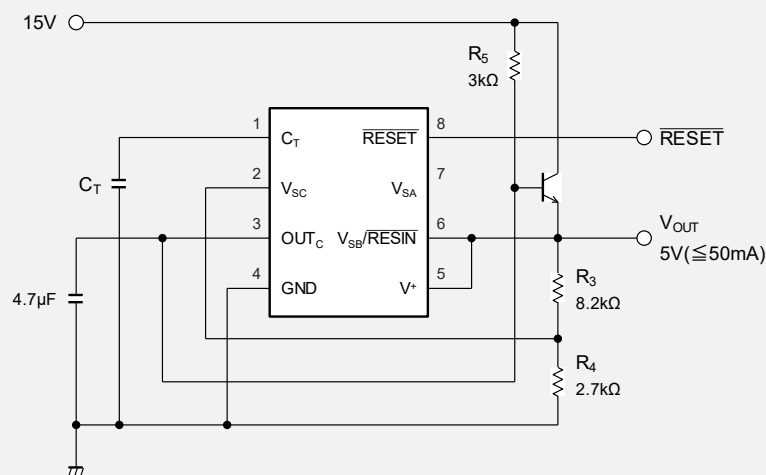

Fig. 12-1 Reference Voltage output and Voltage drop monitoring (e.g. 5V output, 5V monitoring)
- The reference voltage  $V_{OUT}$  is calculated as following formula. In case of resistor value In Fig.12-1, the reference voltage  $V_{OUT}$  is about 5.0V
5V Reference voltage  $V_{OUT}$  is generated by  $V_{SC}(COMP\_C)$  and feedback resistors  $R_2$ ,  $R_3$ , and its 5V is monitored by  $V_{SA}(COMP\_A)$ . Unlike Fig.12-1, 5V output cannot supply large current.